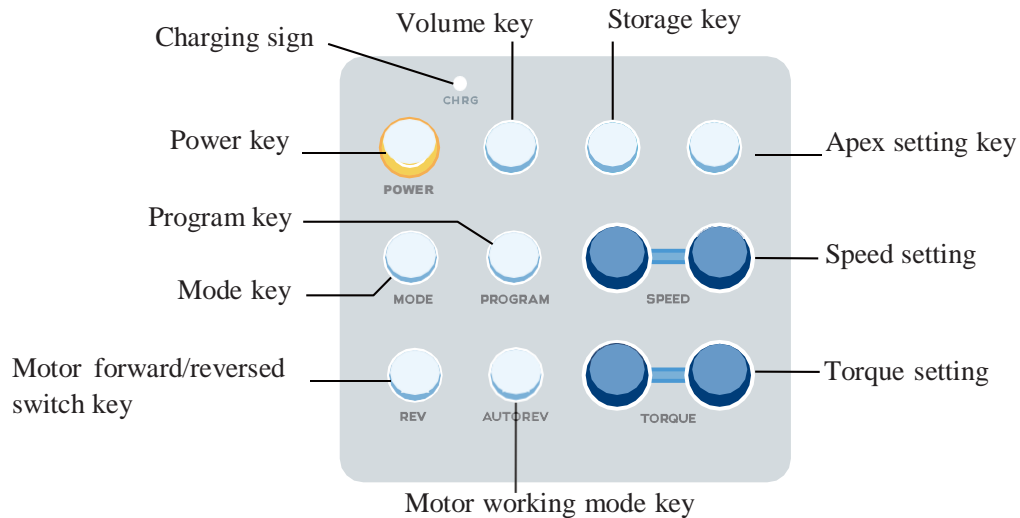

Fig. 4.1 Explanation of operation panel
4.1 R-Smart Plus function definition (Fig. 4.1/4.2)